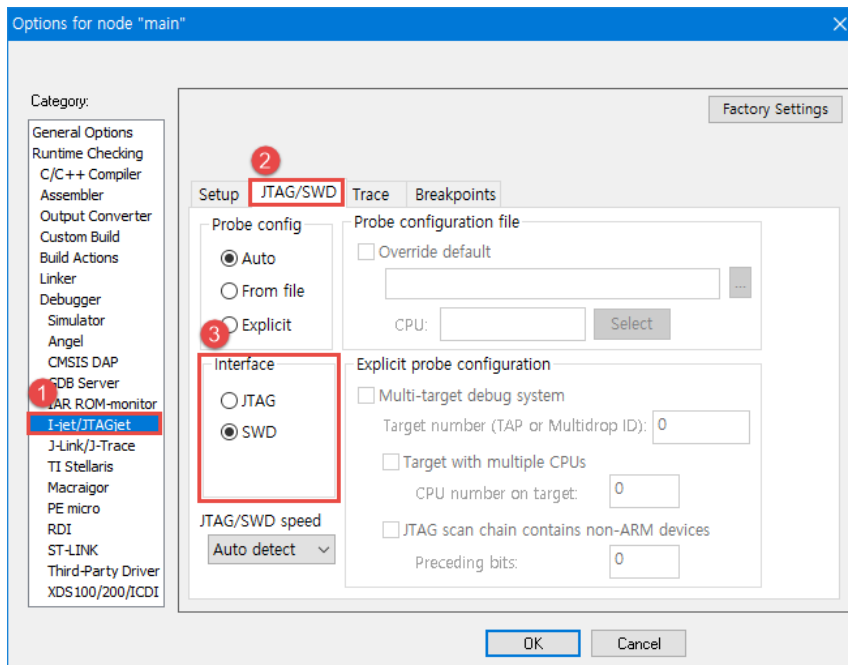

Figure 31: I-Jet JTAG/SWD Setting
- k. In the **Category** list, select **JTAG/SWD** (1). See Figure 31.